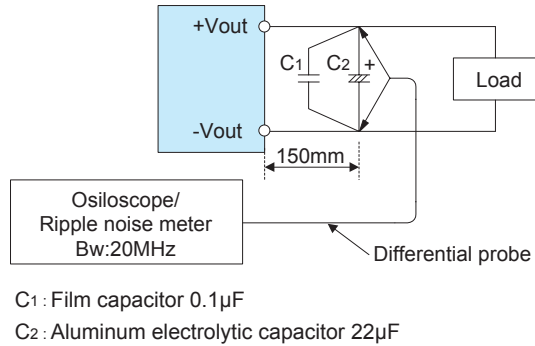

Fig.1.1 Measuring method of Ripple and Ripple Noise
■ Output ripple noise may be influenced by measurement environment, measuring method fig.1.1 is recommended.